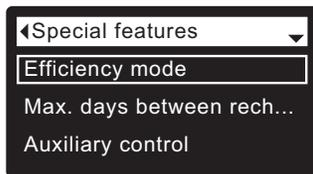

FIG. 88
5. Press the SELECT (O) button to display the Special features menu (See Figure 88).
9. Press the SELECT (O) button. The display will go back to the Special features menu (Figure 88).